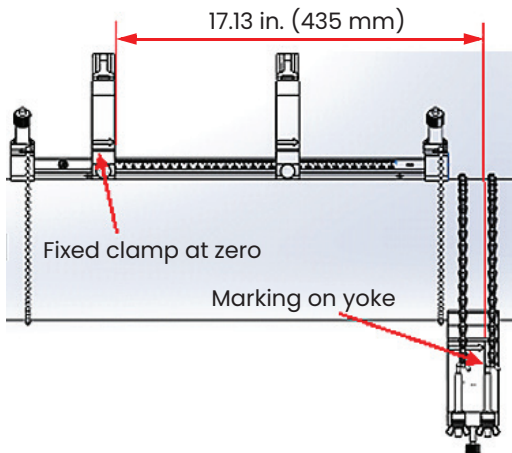

Figure 29: Yoke set at 435 mm/17.13 in.
- Spacing >305 mm/12 in. (435 mm/17.13 in. is used as an example): measure the required 435 mm/17.13 in. distance from the edge of the fixed clamp to the marked line on the yoke (see Figure 29 below).